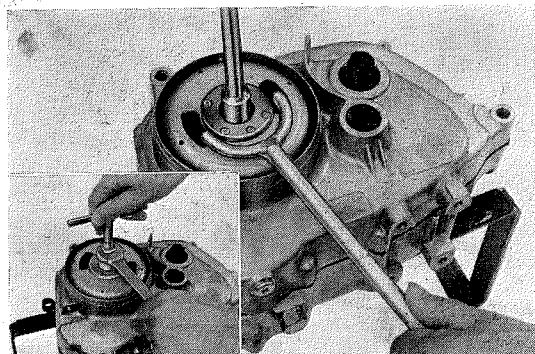

Fig. 49 Flywheel removal
4. Take off the dynamo cover, holding the flywheel with flywheel holder special tool and remove the flywheel with flywheel puller special tool. (Fig. 49)